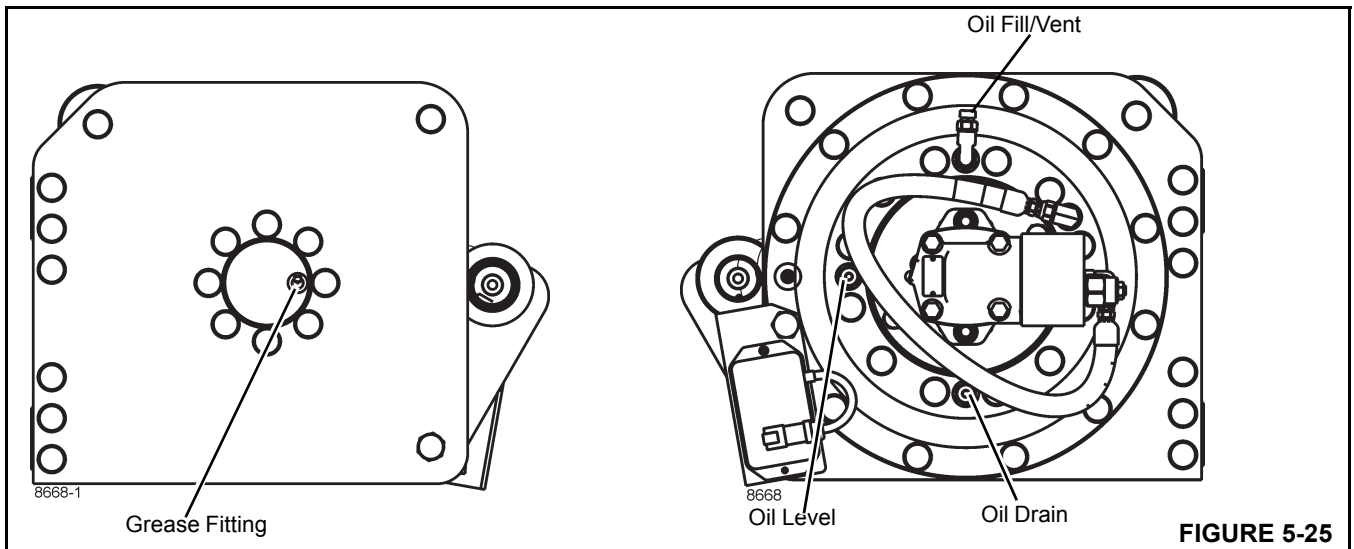

FIGURE 5-25
3. Clean around the gearbox oil level plug (Figure 5-25) and then remove the plug.